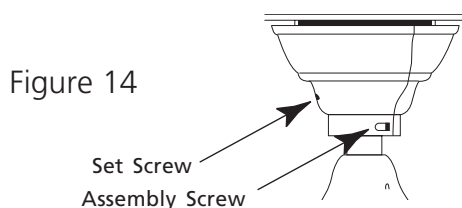

Figure 14
3. Tighten both of the assembly screws and SCREW IN the canopy set screw. See Figure 14.